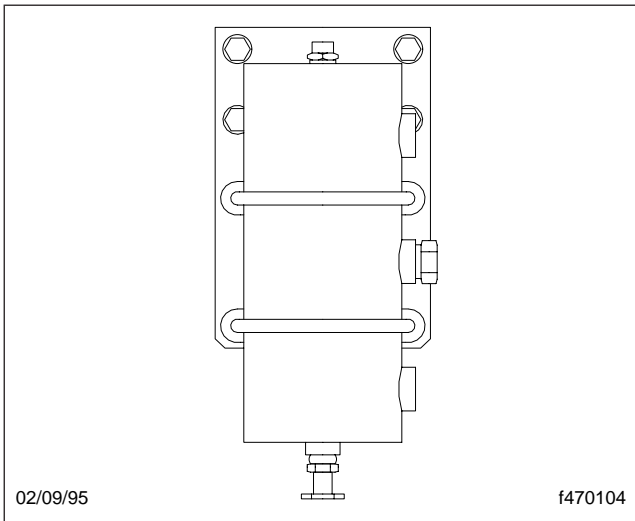

Fig. 11.4, Davco Fuel/Water Separator
- For a Davco Model 321 (see Fig. 11.4):* If the separator is equipped with a fuel filter and the filter has a vent at the top, open the vent. To drain the water, open the drain valve at the bottom of the separator. Newer separators use a ball valve with a handle that turns 90 degrees. Older separators have a knurled, brass valve that unscrews to open. Allow the water to drain and close the valve finger-tight.